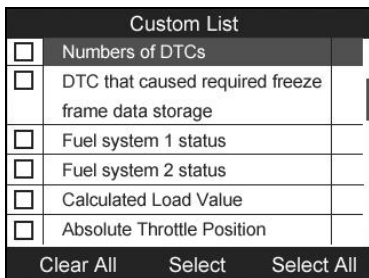

Figure 6.11
- 2) Use the **UP/DOWN** scroll button to move to the desired item and press the corresponding **FUNCTION BUTTON** 'Select' to choose. (Figure 6.11)